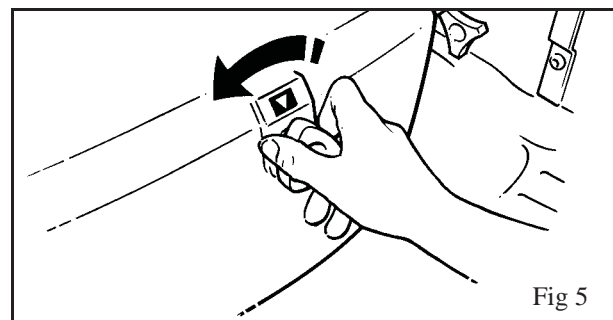

Fig 5
System failure lower override:- This can be used in the event of main control failure. In the unlikely event that the hand control or dual control panel fails to operate the lift, with a patient still supported by the sling, provision for lowering has been made, using the "lower override knob", situated on the right hand side of the main cover. A label situated above the switch. (See Fig 5)
1. To operate the lower override, turn the knob anti clockwise half a turn. (See Fig. 5)